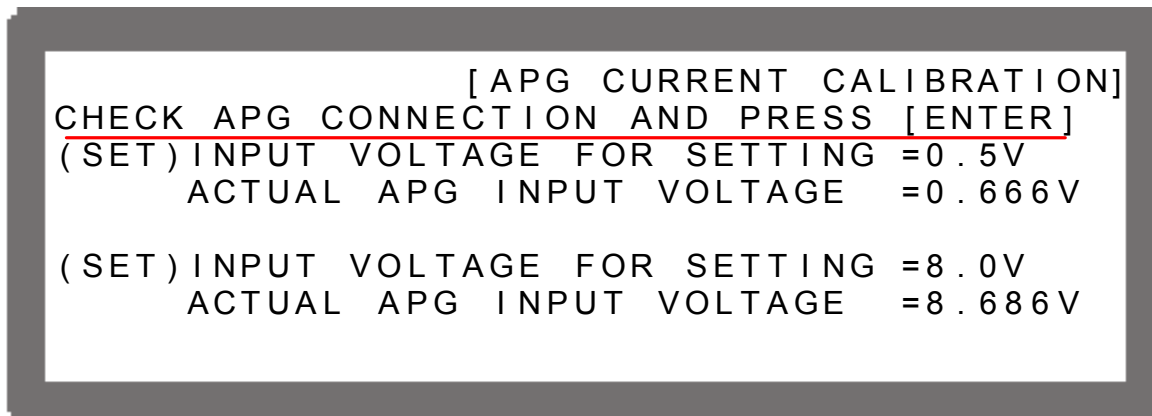

Figure 3-124
- (1) In CALIBRATION page, press “5” or turn “Rotary” (⊙) knob to set CHOICE = 4.
- (2) Press “” to confirm entering into APG Voltage Calibration options as Figure 3-124 shows.